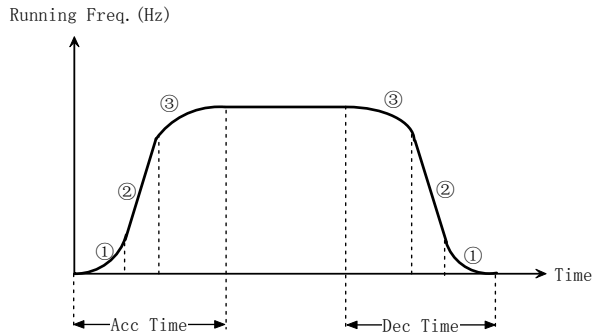

Fig. 5-1-5 S-curve acceleration/deceleration
Starting process of S-curve is shown in Fig. 5-1-5 as “①”, where the changing rate of output frequency increases from 0;
Rising process of S-curve is shown in Fig. 5-1-5 as “②”, where the changing rate of output frequency is constant;
Ending process of S-curve is shown in Fig. 5-1-5 as “③”, where the changing rate of output frequency decreases to zero.